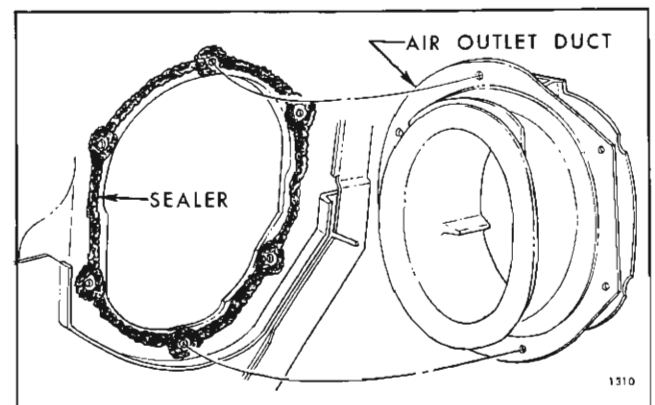

Fig. 1C17—Shroud Side Air Outlet Duct Sealing
1. Remove sill plate and screws securing trim panel and grille to outlet (Fig. 1C15).